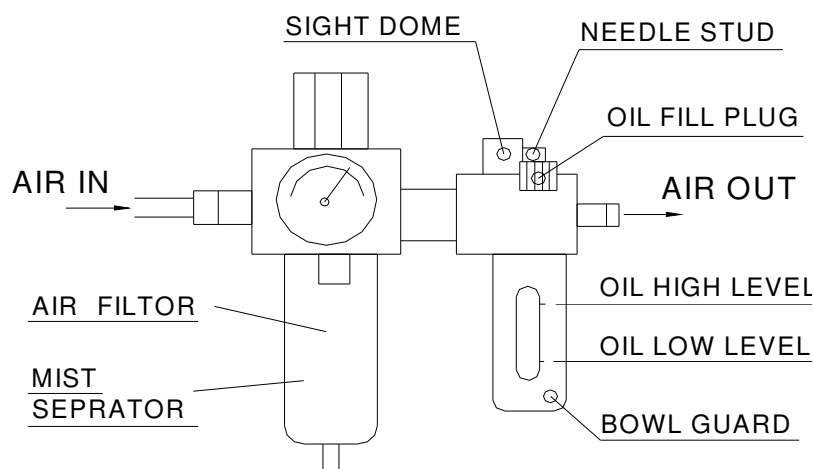

FIG. 6.6.2 AIR SOURCE ADJUSTMENT
6.6.2 AIR LINE LUBRICATOR (FIG. 6.6.2)